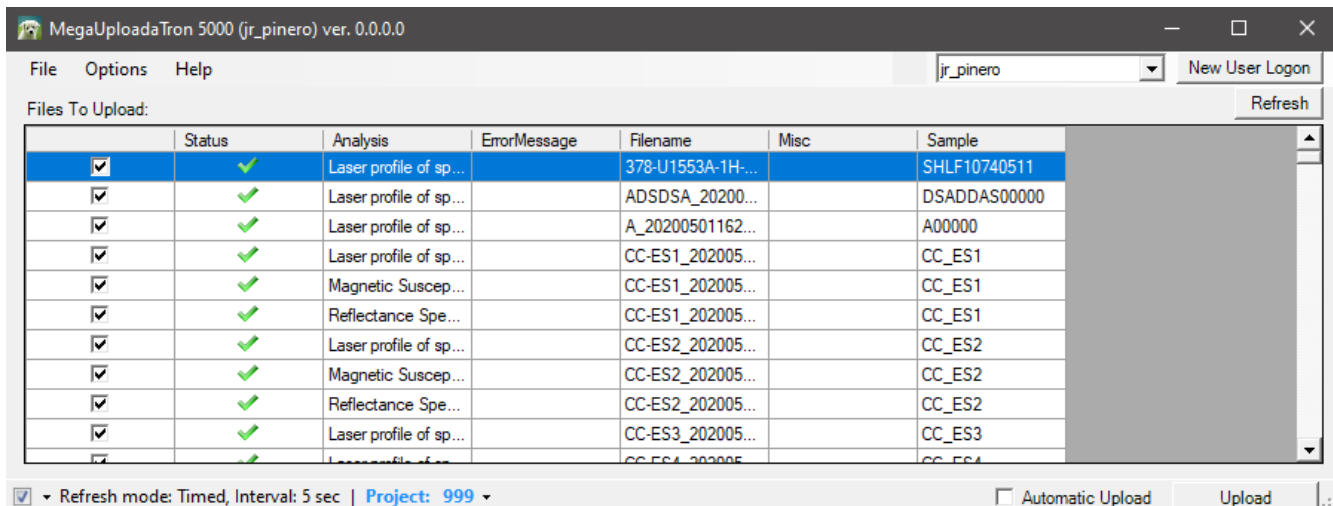

Figure 39. LIMS Uploader window
1. On the desktop click the **MUT** icon on the bottom task bar (Figure 39) and login with ship credentials. The **LIMS Uploader** window will appear (Figure 16).